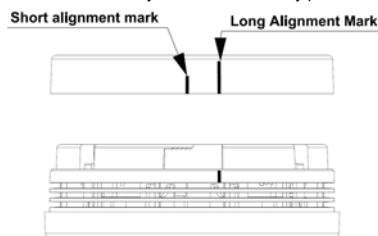

Fig. 6 – Fitting the smoke alarm to the base
7. Align the unit with the base rotate it clockwise to lock it into place (see Fig. 6).